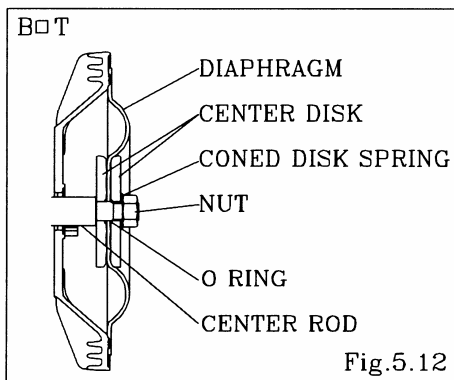

Fig.5.12
- Keep the convex side to the outside (cf. Fig.5.12).
- Put the O rings to both sides of the diaphragm. (cf. Fig.5.12)